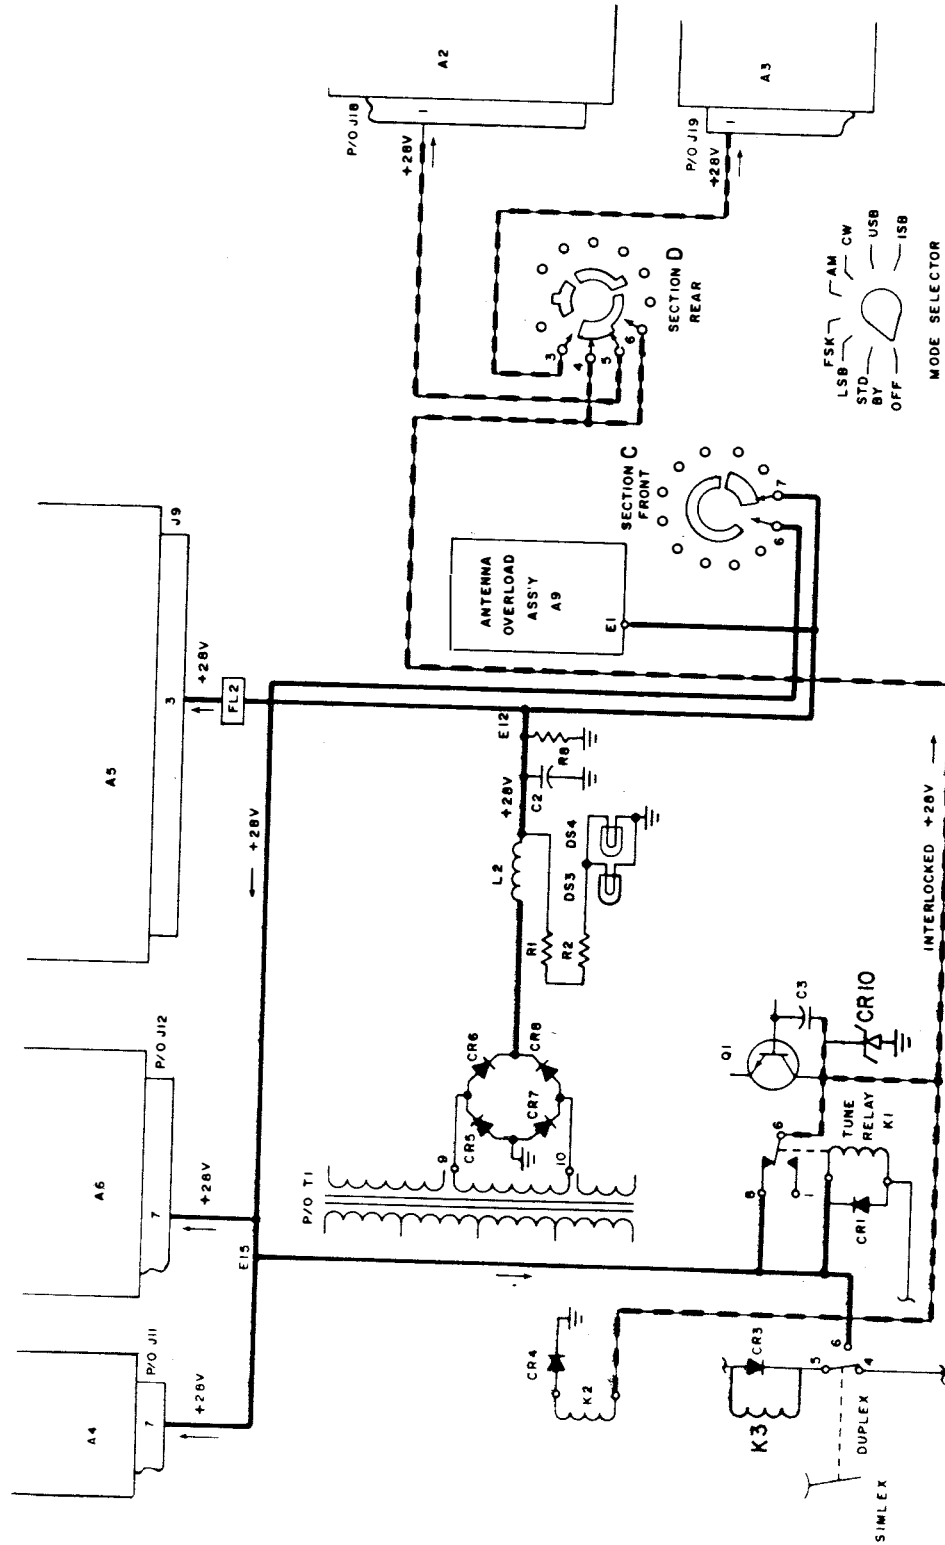

FIGURE 4
5. Using a GREEN pencil or fine point felt tip pen and Figure 4, color code the mainframe +28 VDC supply distribution.